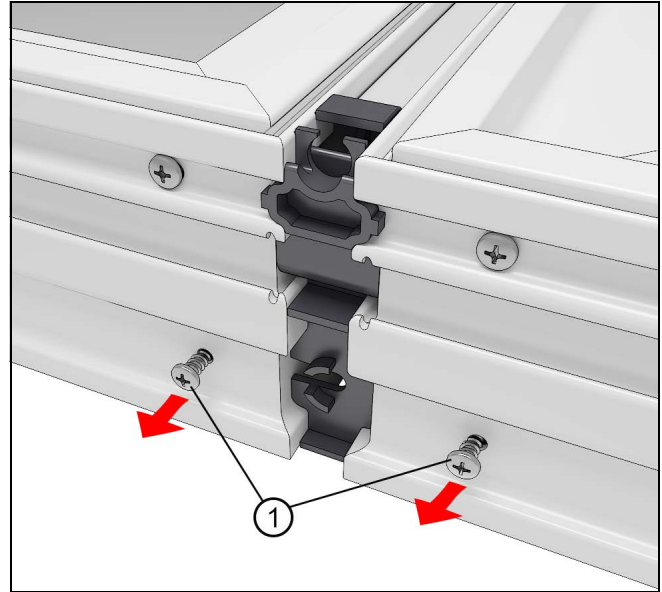

Figure 6
3. Loosen the screws from the interior corners of the windows on both ends of the mull. See Figure 6. (Remove screws from sill completely for sliding window products.)